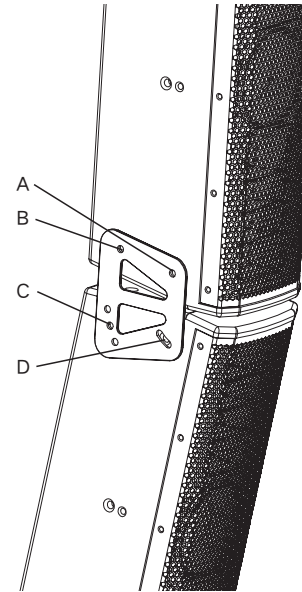

Fig. 3
STEP 1: Remove all the M8 locating inserts (A,B,C&D) from the both upper and lower cabinet as shown in Fig. 3